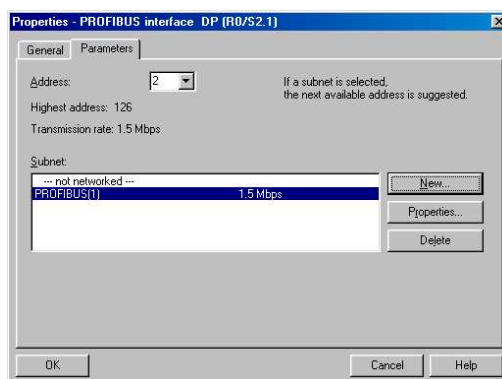

Figure 6-10 Selection Confirmation Screen
17. The Selection Confirmation Screen is displayed (see Figure 6-10 on page 53).